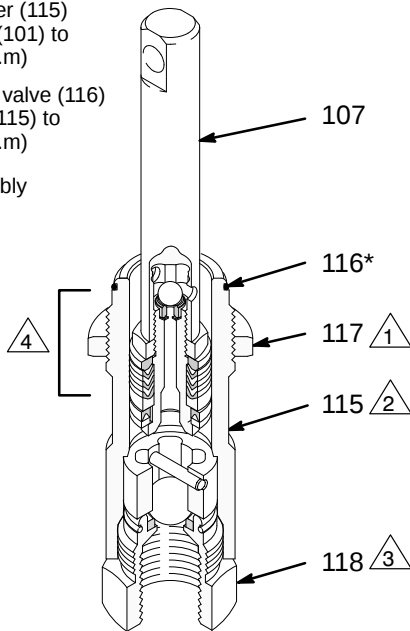

Fig. 21 05118
11. Place a new o-ring (116*) firmly in the cylinder groove. See Fig. 21.
12. Coat the piston rod and packings with oil. Carefully slide the assembly **into the top of the cylinder (115)**. See Fig. 21.
13. Put the manifold upside down in a vise. Fully thread the jam nut (117) onto the cylinder (115). Guide the rod/cylinder assembly down through the manifold (101). Screw the cylinder (115) into the manifold. See Fig. 21.
15. Torque the cylinder jam nut (117) to 73 ft-lb (98 N.m). See Fig. 21.
- 1 Torque jam nut (117) to 73 ft-lb (98 N.m)
- 2 Torque cylinder (115) into manifold (101) to 53 ft-lb (71 N.m)
- 3 Torque intake valve (116) into cylinder (115) to 53 ft-lb (71 N.m)